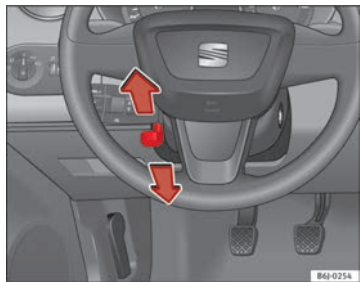

Fig. 105 Steering column height adjustment
- Push the lever under the steering column ⇒ **fig. 105** down ⇒ **△**.
- Adjust the steering wheel until the correct position is set ⇒ **fig. 105**.
- Adjust the driver seat or steering wheel so that there is a distance of at least 25 cm between the steering wheel and your chest ⇒ **fig. 105**. If you fail to observe the minimum distance, the airbag will not protect you. Risk of fatal injury.